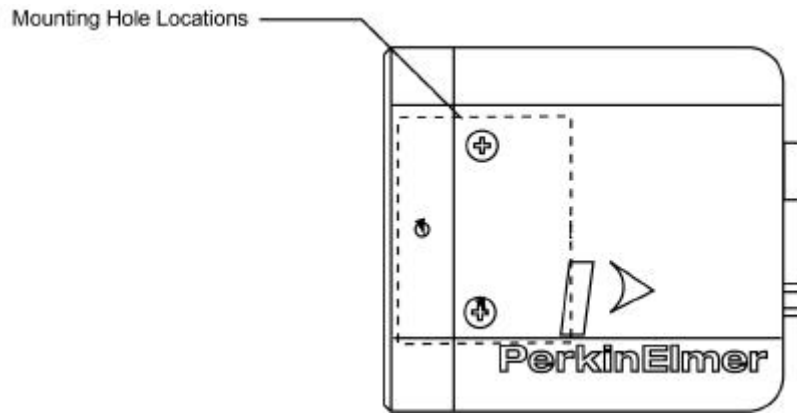

Figure 7 LC3000 Series Camera Mounting Hole Location
3. Fabricate the necessary mounting adapters to be used for installing the camera. Refer to Figure 7 on page 12 for mounting hole location and thread definition.